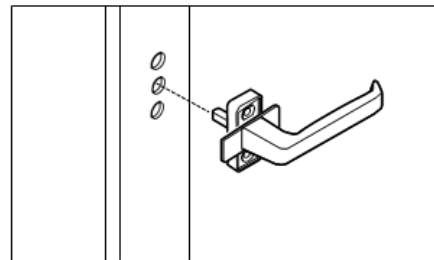

Figure 4-4. Euro-Handle in the Turn position
- 2.5 Turn position: rotate the Euro-Handle to the horizontal Turn position, with the handle pointing toward the hinge side of the sash. Install the Euro-Handle on the sash: insert the shaft into the center hole. See fig. 4-4.